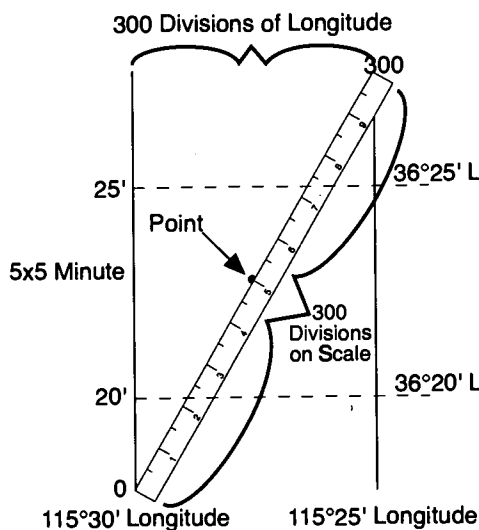

Figure 6.
Locating a point's coordinates on a map is demonstrated schematically in Figures 6 and 7 below. On this 15-minute map, each section would have dimensions of 5 minutes of latitude by 5 minutes of longitude. The location of a point in this section can be determined to the nearest second if we can divide the section into 300 divisions (60 seconds per minute \times 5 minutes = 300 seconds). By using the 50 division scale on the engineer's scale, it is possible to effectively divide the 5 x 5 minute section into 300 divisions. This is done by laying the scale down with the zero on one line of longitude and the 300 on the other line of longitude while making sure the point we are interested in lies along the edge of the scale. (To do this, slide the scale until all three points are as illustrated.) This effectively divides the section longitudinally into 300 divisions (Figure 6).
In the example in Figure 6, suppose the point lies adjacent to 142 on the scale. This means the longitude of that point is 142 seconds east of the line 115 ° 30'. Convert this to 2 minutes, 22 seconds east of 115 degrees 30 minutes (142 seconds divided by 60 seconds per minute = 2 minutes, 22 seconds). Subtracting 2 minutes, 22 seconds from 115 degrees, 30 minutes gives 115 degrees, 27 minutes, 38 seconds. We subtract here because longitude is measured from east to west. In other words, higher numbers are farther west. How far west is the point from the line 115 ° 25'? (There are a couple of ways to figure this out.)
3. Use the method outlined in Figures 6 and 7 in the reading entitled *Topographic Map Skills* to determine the longitude of a point between $81^{\circ} 30'$ and $81^{\circ} 32' 30''$. If you want to determine the longitude to the nearest second ($''$), how many divisions do you need on your scale?